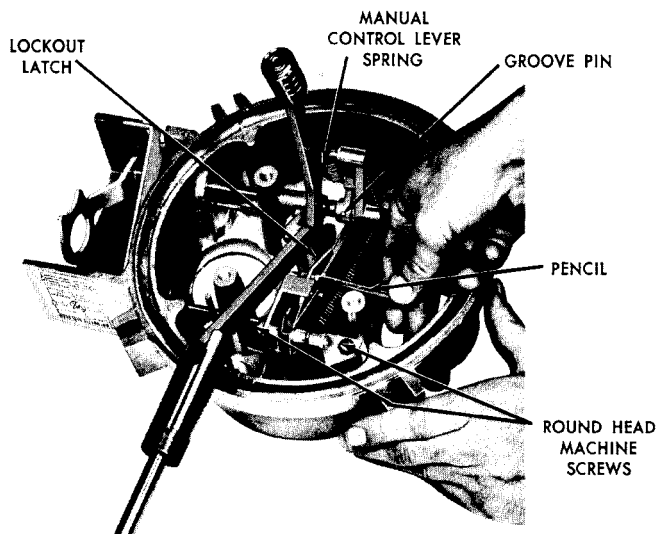

Figure 29. Unhooking manual control lever spring
- D. Insert short pencil under lockout latch, as shown in Figure 29. *This precaution is necessary to insure against accidental tripping of the mechanism.*
- E. Unhook manual control lever spring shown in Figure 29.
4. Remove toggle and trip lever assembly by unscrewing the two round-head machine screws (refer to Figure 29).